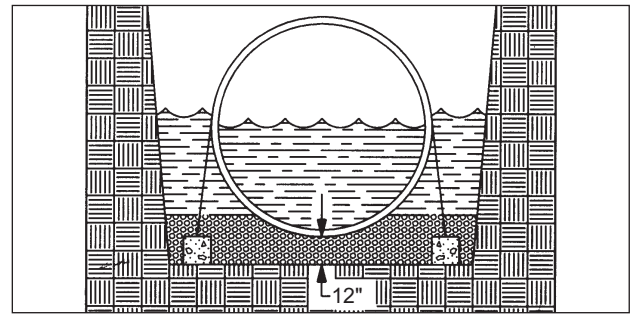

FIGURE 8-3
8.3.1.3. During Point 8.2.2. of the dry-hole installation, when setting and leveling the tank, partially ballast the tank until it settles firmly on the prepared bed. The ballast level in the tank must never exceed the water level in the hole by more than 1 foot until the backfill reaches the top of the tank. (See FIGURE 8-3.)